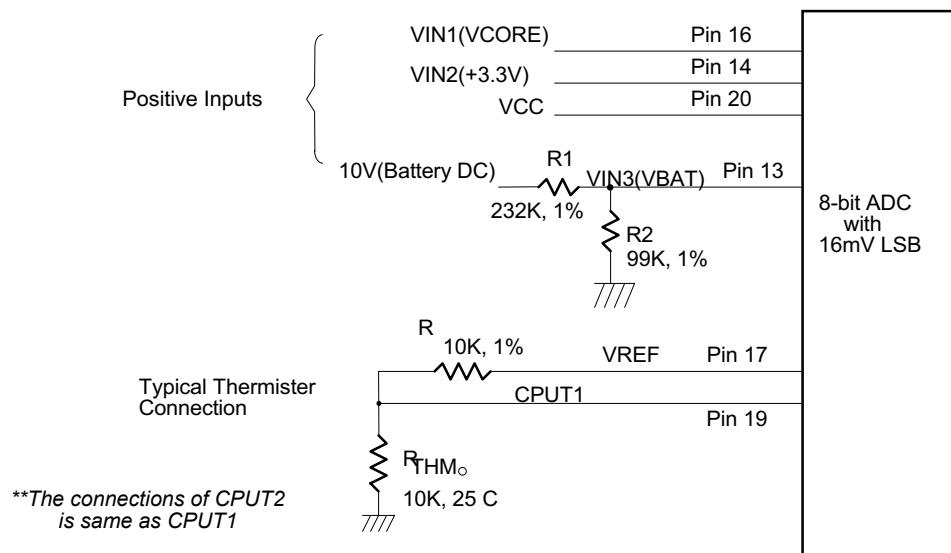

Figure. 10.
The maximum input voltage of the analog pin is 4.096V because the 8-bit ADC has a 16mv LSB. Really, the application of the PC monitoring would most often be connected to power suppliers. The CPU V-core voltage and +3.3V voltage can directly connected to these analog inputs. The 5VSB and battery inputs should be reduced a factor with external resistors so as to obtain the input range. As Figure 10 shows.
The W83L784AR can connect three thermistors to measure three different environment temperature. The specification of thermistor should be considered to (1)  $\beta$  value is 3435K, (2) resistor value is 10K ohms at 25°C. In the Figure 10, the thermistor is connected by a serial resistor with 10K Ohms, then connect to VREF (pin 17).